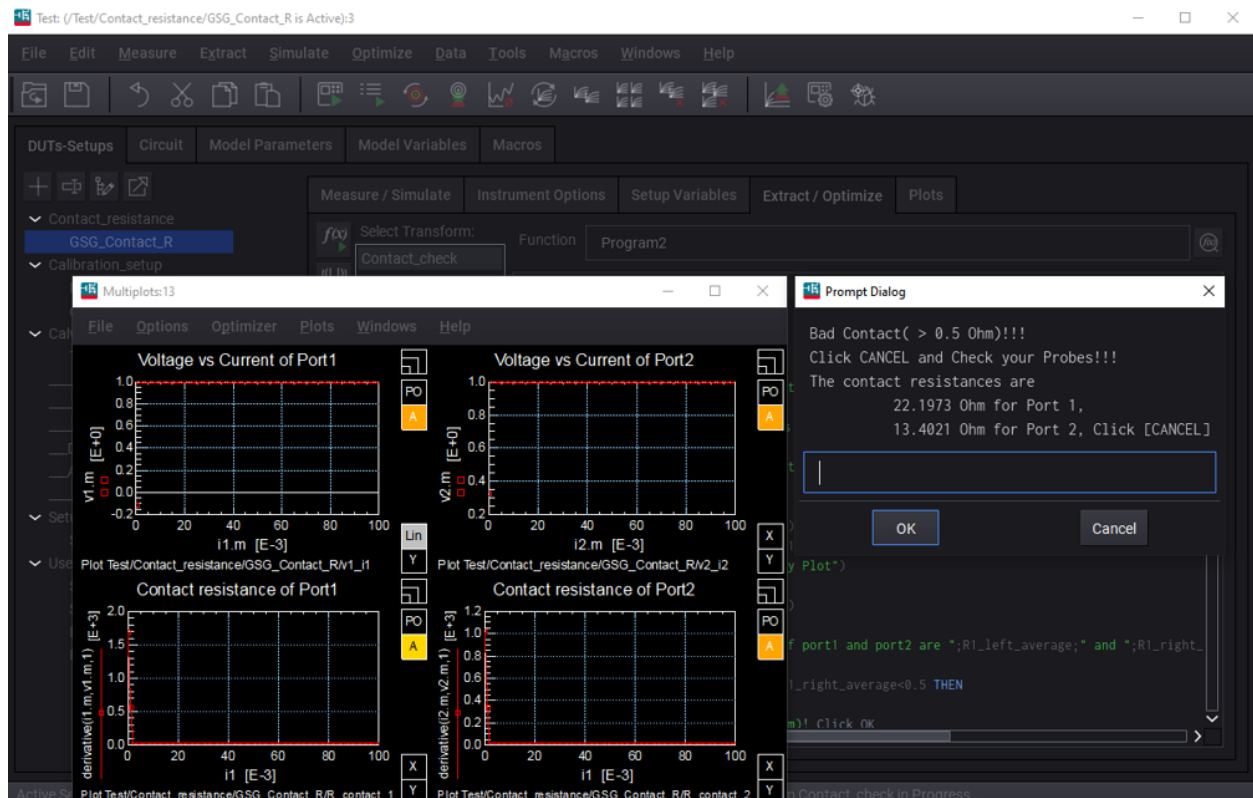

Fig. 7.5. Measured contact resistances.
- 7.10 After the measurement is completed in a few seconds, the "Multiplots" window pops up and the "Prompt Dialog" shows up again with new messages as shown in Fig. 7.5. "Multiplots" plots the V-I characteristics and $\partial V/\partial I$ slopes (resistances) of Port 1 and Port 2, while "Prompt Dialog" reports contact-resistance values of each port. (In microwave terminology, a "port" is generally formed by two terminals such as the signal and ground terminals of a coaxial cable or a microstrip/coplanar transmission line. Usually, Port 1 is the input on the left, while Port 2 is the output on the right. For example, a 3-terminal transistor in a common-source configuration can be a 2-port microwave device, so that Port 1 is formed between the gate and source while Port 2 is formed between the drain and source.) If the contact resistances are less than 0.5 Ω , you should see "Congrats, Contact Consistency Check Passed!!!," so you can move on to the next step by clicking on "OK." Otherwise, check your probes, the alignment, and the overtravel, and clicking on "OK" and double click on "Contact_check" again to repeat it. If the problem persists, discuss it with the tool owner or an expert user.